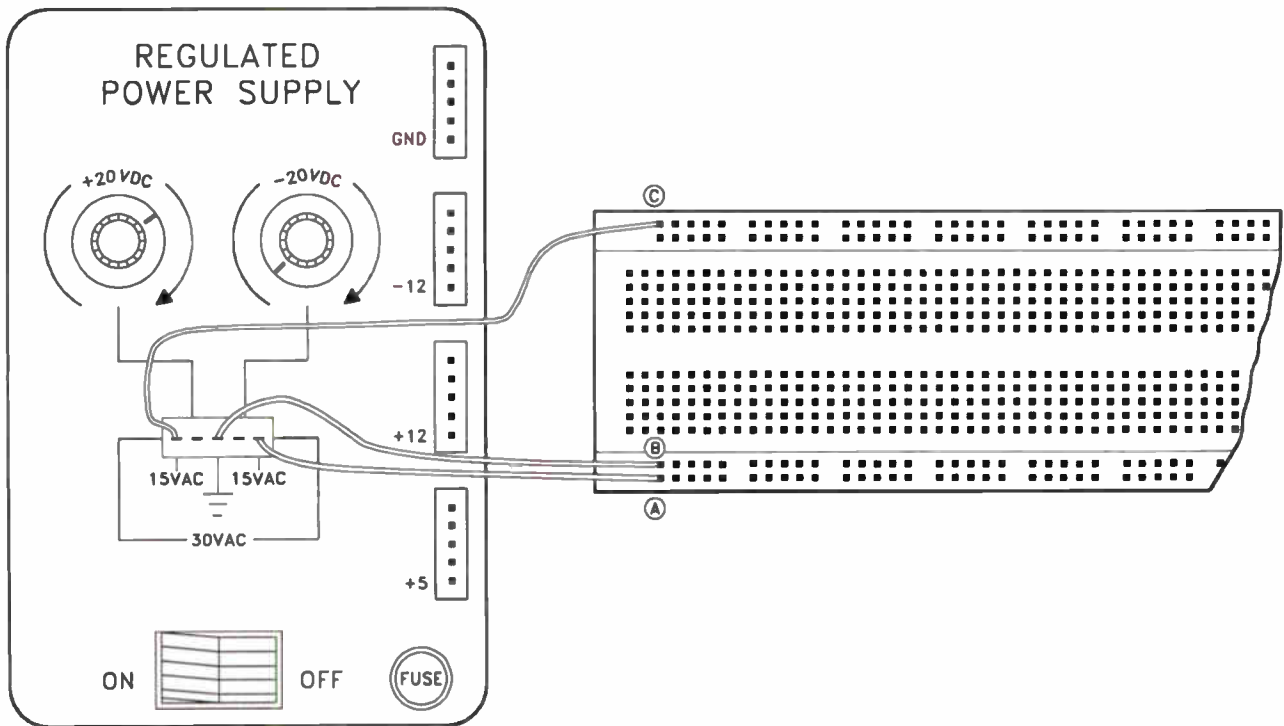

Figure 1-1. Connecting the power transformer secondary leads.
Using your Discovery Lab as a base, connect the center-tapped transformer secondary leads to the breadboard strip as shown in Figure 1-1.
Step 3. Connect the leftmost terminal of the power transformer secondary (marked 15VAC) to point C on the breadboard strip, as shown in Figure 1-1.